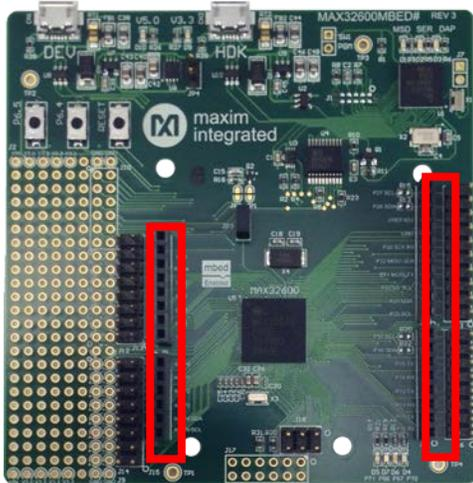

Figure 8. Inserting pins on the MAXREFDES155# shield into the MAX32600MBED# base board.
2. Insert the downward facing pins on the MAXREFDES155# assembly into the MAX32600MBED# as shown (**Figure 8**).